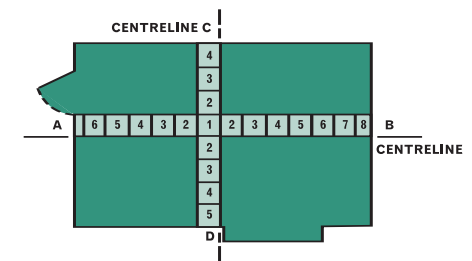

Figure 20 Laying out rubber tiles
- E.** Loose lay tiles away from the centreline C-D and check that no small strips will have to be laid. Adjust centreline C-D as described for A-B. In Figure 20, by moving the centreline C-D towards the door, tile 6 would only require a small amount to be trimmed off, as would tile 8 on the opposite wall.